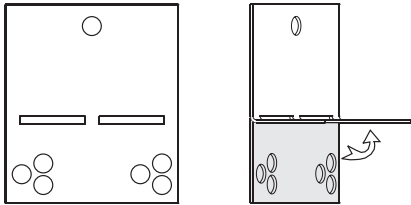

Figure 22
- Nailing flanges are provided. Bend nailing flanges to form right angles. Locate the pairs of holes on the side of the fireplace that will allow the face to be 1-1/2 inches plus the thickness of the finishing material. For example, if using a 1/2-inch board without tile or other facing material covering the board, the distance from the front of the fireplace will be 2 inches. If a covering goes over the board, then add 2 inches to the covering's thickness. Attach nailing flanges to fireplace using hex screws. See Figures 22 and 23.